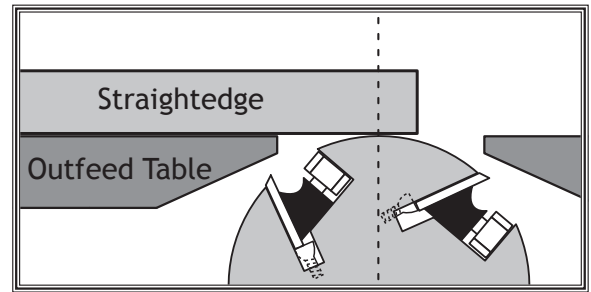

Figure 43. Adjusting outfeed table even with cutterhead body (knife-style cutterhead shown).
1. Place straightedge on outfeed table so it hangs over cutterhead, and lower outfeed table until straightedge just touches cutterhead body, as shown in **Figure 43**.